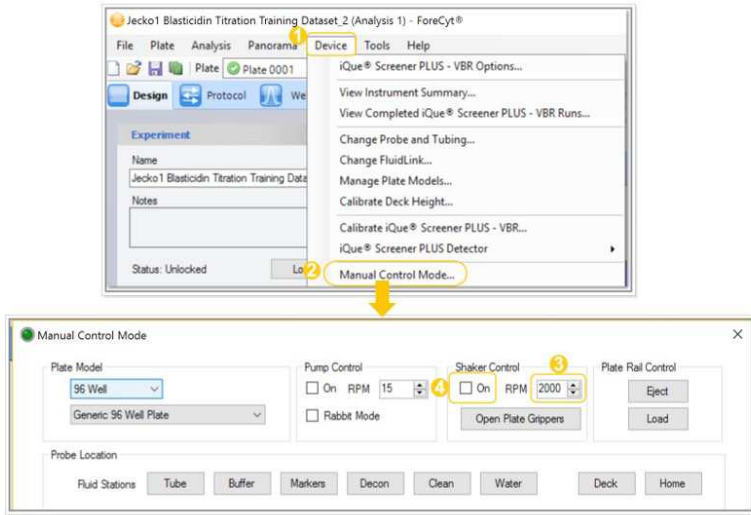

Figure 3. Steps for using the shaker on the iQue screener PLUS.
This assay requires shaking to mix the sample/reagents. If you don't have a separate shaker, you can use the one on the Intellicyt iQue screening system, as shown in **Figure 3**. (1) Click on **Device** in the menu bar. (2) Scroll down to **Manual Control**. (3) In the Manual Control window, use the arrows to set the RPM to 2000 (for brief mixing) or to 3000 (for more vigorous mixing after a spin down and aspiration). (4) As soon as you click **On**, the shaker will begin to shake and continue to shake until you click again to un-check.